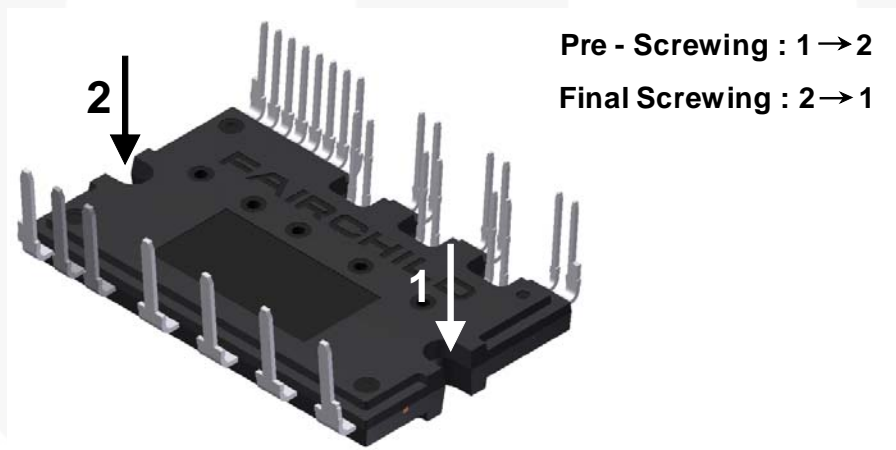

Figure 9. Mounting Screws Torque Order
- 11. Avoid one-sided tightening stress. Figure 9 shows the recommended torque order for mounting screws. Uneven mounting can cause the DBC substrate of package to be damaged. The pre-screwing torque is set to 20 - 30% of maximum torque rating.